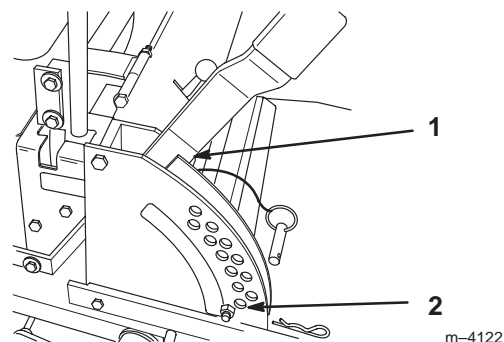

Figure 56
2. Check tire pressure of all four (4) tires. If needed, adjust to 13 psi (90 kPa).
4. Raise the deck to the transport position (Fig. 56). Take force off of the two large deck lift springs by loosening jam nut and front spring nut, in front of each spring, as far as possible (Fig. 57).
5. Place two 1-1/4 inch (35 mm) thick blocks under rear left and right lower edge of mower. Place one 1-3/8" (44 mm) block under front center lower edge of mower. Not under anti-scalp roller brackets. Lower mower to the 1-1/2 inch (38 mm) height-of-cut position (Fig. 56).